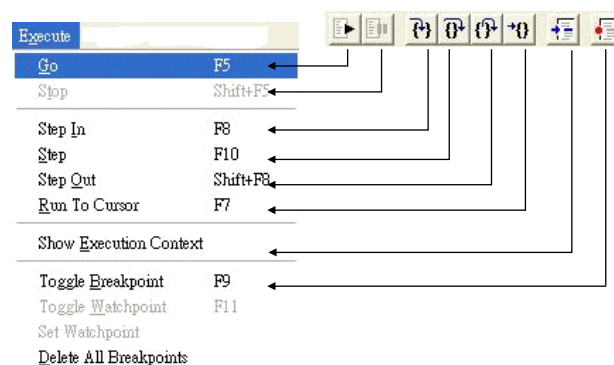

Figure 12. Execute Menu and its corresponding Toolbar.
6. Press **F10**. This is equivalent to selecting **Step** from the **Execute menu** (Figure 12). The program executes a single instruction and stops. Any values that have changed in the **Variables processor view** are displayed in red.
4. Press **F10**. This is equivalent to selecting Step from the Execute menu/toolbar (Figure 12). The program executes a single instruction and